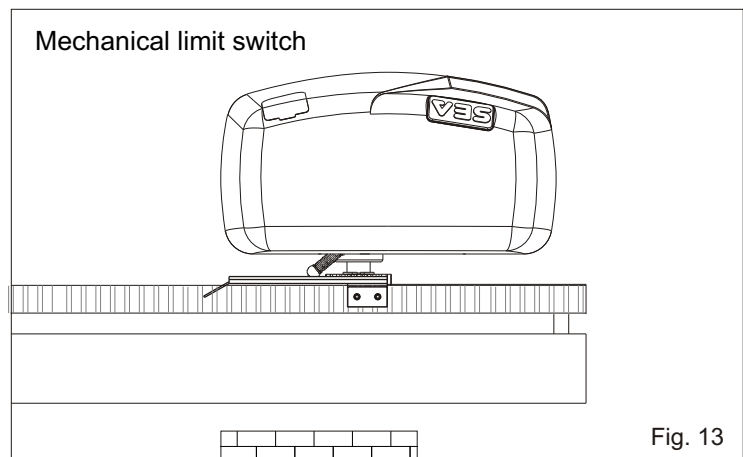
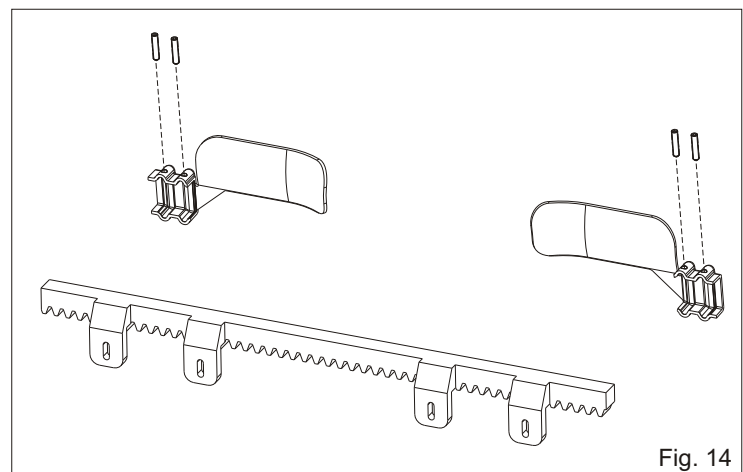

Fig. 13
Fig. 14
- Place the plate on the rack in order to have the lever of the mechanical limit switch (Fig. 13) in correspondance of the limit sheet and fix it with the delivered screws (Fig. 14).